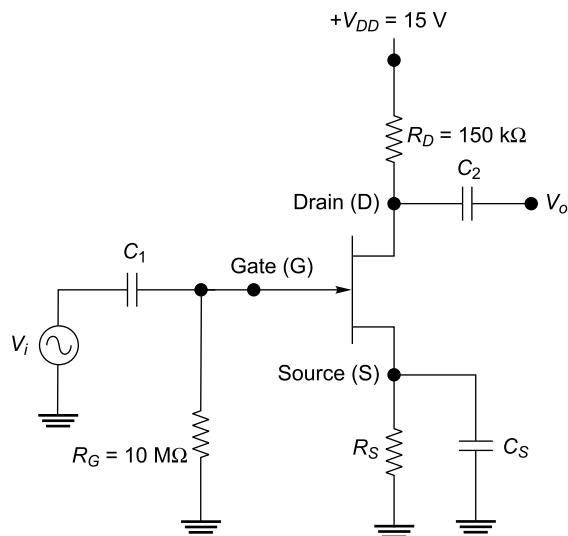

Fig. 1.89
46. Figure 1.89 shows a common source JFET amplifier circuit. Determine the value of voltage gain of the amplifier, input resistance and output resistance. Assume r_d is $200 \text{ k}\Omega$ and $g_m = 4 \text{ mA/V}$.